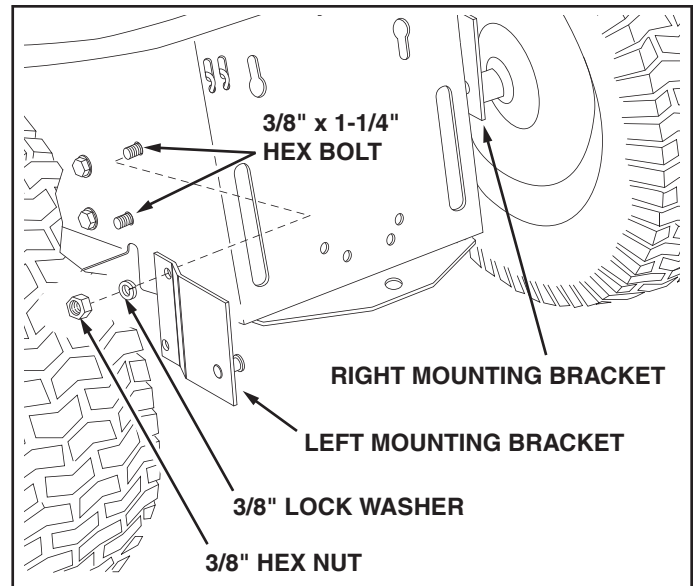

FIGURE 2
2. Install two 3/8" x 1-1/4" hex bolts in the left side of the tractor as shown. Attach the left (L.H.) Mounting Bracket (pin at top facing in) to the bolts using two 3/8" lock washers and 3/8" hex nuts. Repeat on the right side. See figure 2.